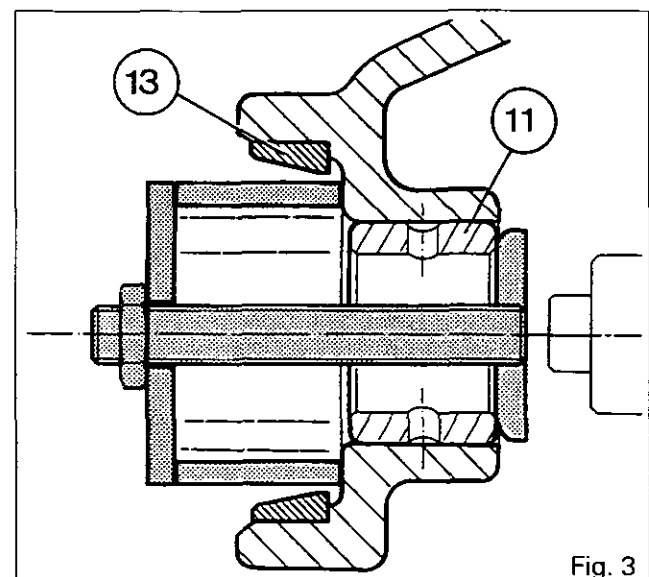

Fig. 3
8. Remove the shaft assembly (25) and bearing cone (19), whilst keeping the clutch assembly (16) and transfer gear (15) together.
9. Remove the clutch assembly (16) with the transfer gear (15) and bearing cone (14).
10. Using the locally made tool (see section E), remove the bush (11) (Fig. 3). This tool is essential for tractors with G.S. PTO. If necessary, also remove the cup (13) with a suitable extractor.